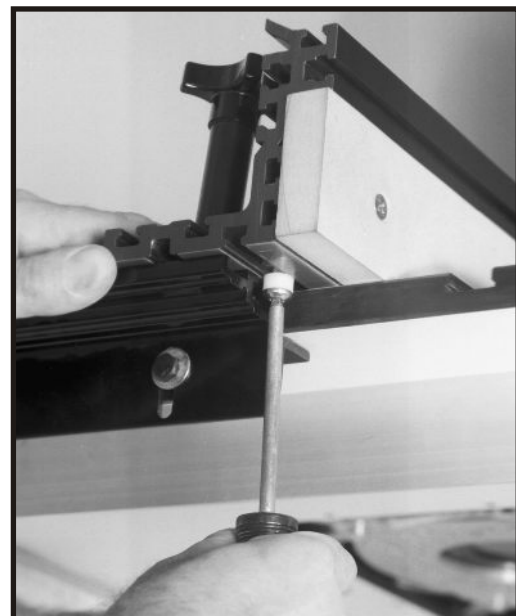

FIG. 13
15. Now slide the fence, keeping it square (use the scales on the fence track to ensure you are square) to the front of the table, just until the nylon spacer comes out of the track. Then tighten the bolt on the spacer being very careful not to change its position (Fig. 13).